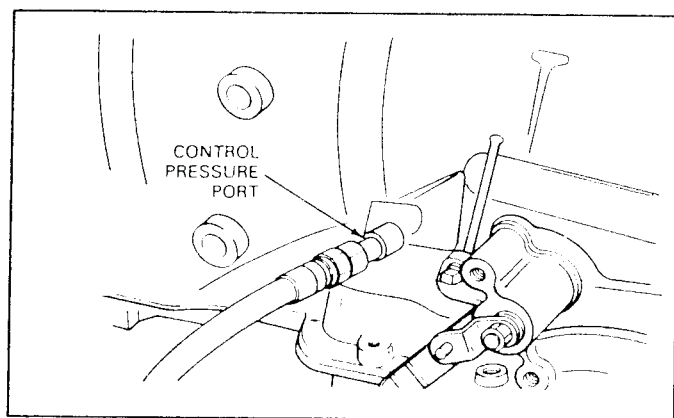

FIG. 6 Control Pressure Connecting Point—C6 Transmissions
2. Attach a pressure gauge to the control pressure outlet at the transmission (Fig. 6).